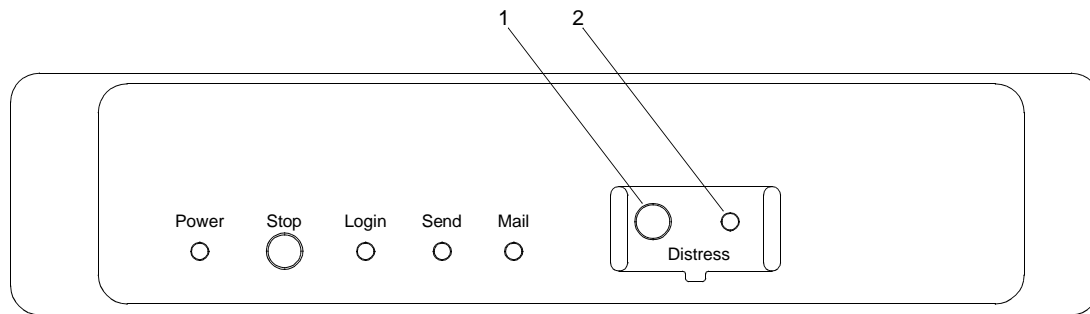

Figure 1. CAPSAT Transceiver
1. Press the Distress button (figure 1, item 1) on the transceiver to send an immediate maritime distress.
2. Hold the Distress button (figure 1, item 1) for at least 5 seconds until the LED indicator (figure 1, item 2) starts flashing.